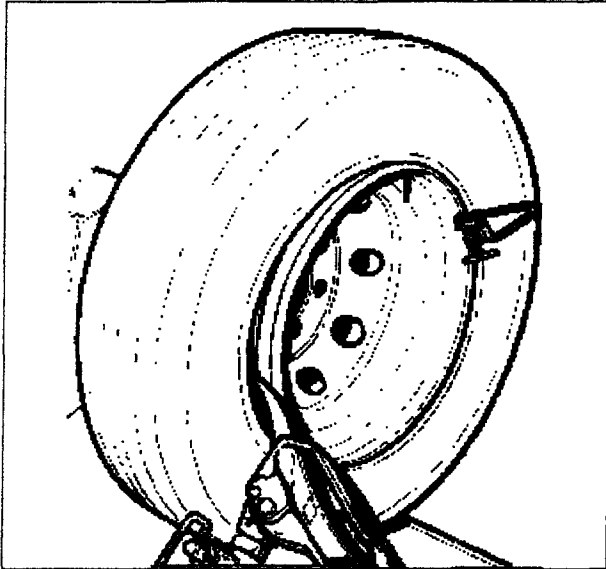

Fig.36
3. Reattach the mounting clamp to the rim flange with the valve after the mounting clamp, following the rotation direction (Fig.36).